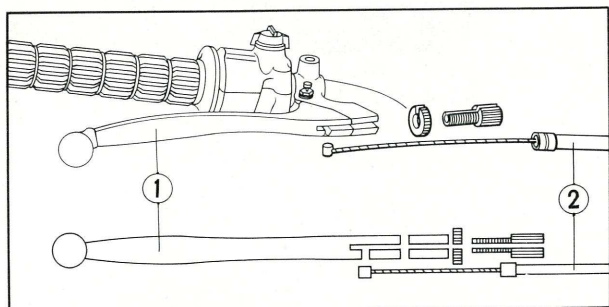

Fig. 2-21 ① Brake lever
1. Remove brake and clutch cables at the position as in Fig. 2-21 Remove boots.